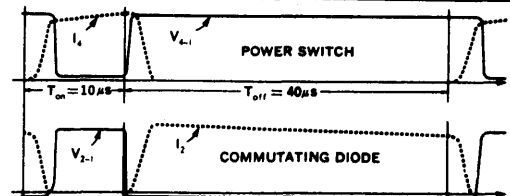

Figure 2. SM600, 601, 602 Switching Waveforms
- In switching an inductive load, the current will lead the voltage on turn-on and lag the voltage on turn-off (see Figure 2). Therefore, Voltage Delay Time (t_{DV}) $\cong t_{di} + t_{ri}$ and Current Storage Time (t_{CS}) $\cong t_{fv} + t_{fi}$.
- As can be seen from the switching waveforms shown in Figure 2, no reverse or forward recovery spike is generated by the commutating diode during switching! This reduces self-generated noise, so no current spike is fed through the switching regulator. It also improves efficiency and reliability, since the power only carries current during turn-on.